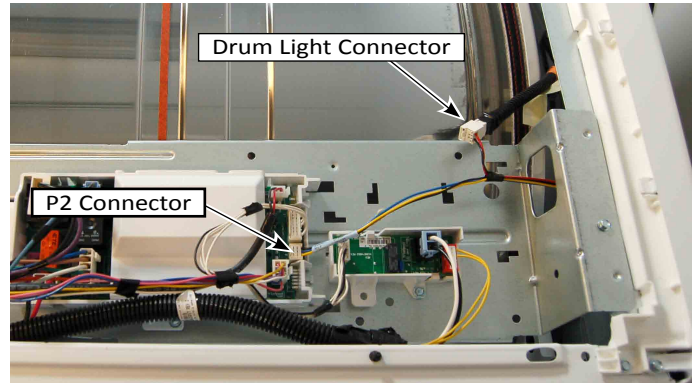

Figure 2
1. After removing the top panel, remove connector P2 from the CCU and disconnect the in-line connector between the UI and drum light (see Figure 2).